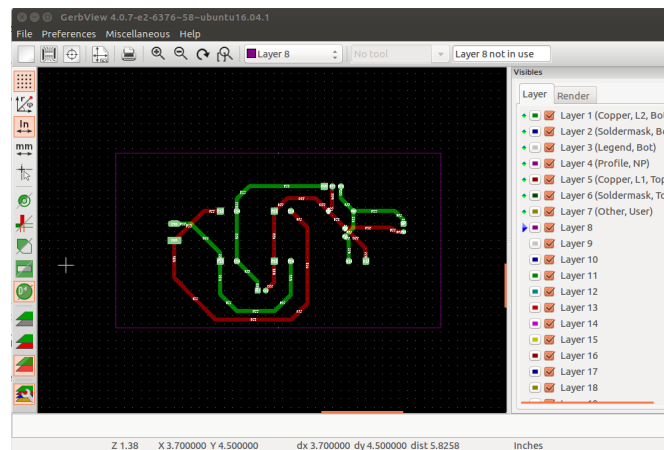

Figure 12.25: Observing the design in Gerber format
4. The design created earlier will appear in the gerbview window as shown in Fig. 12.25.